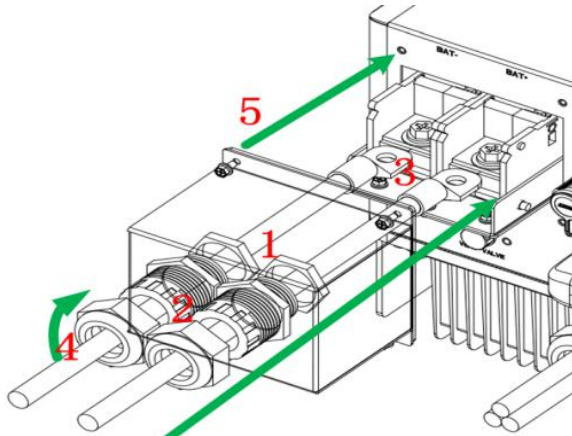
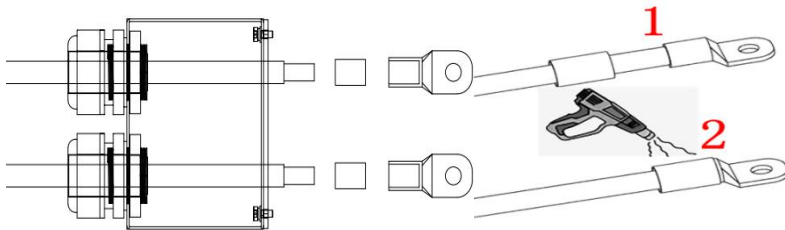

Fig. 6.1.1
Fig. 6.1.2
- ① Check whether battery polarity and voltage are normal, and the battery voltage is within the permissible range of the inverter specification (42V-58V).
- ② The wiring terminals of the battery cable are provided in the packaging bag. Strip the 10 mm cable sheath of the battery cable and pass it through the waterproof cover and terminals as shown in Fig. 6.1.1:
- ③ Connect the exposed battery cable to the battery terminal (accessories), as shown in Fig. 6.1.2; pass and tightly press the cable into the cable inlet on the terminal end. Wrap the terminal end with insulation tape or thermoplastic tube after pressing tightly. Perform insulation during installation; otherwise, it is possible to cause battery short circuit.
- ④ Fix the waterproof terminal on the waterproof cover, and as shown in Fig. 6.1.1, pass 2 through the waterproof cover and fix it with 1.
- ⑤ Fasten the battery cable terminal 3 shown in Fig. 6.1.2 to the battery terminal block on the case with the screws (attached on the case). Ensure that the positive and negative terminals are not reversed. Then fasten the waterproof cover 5 shown in Fig. 6.1.1 to the case with the screws and tighten the waterproof cap 4 shown in Fig. 6.1.1 to prevent water and dust from entering the case.